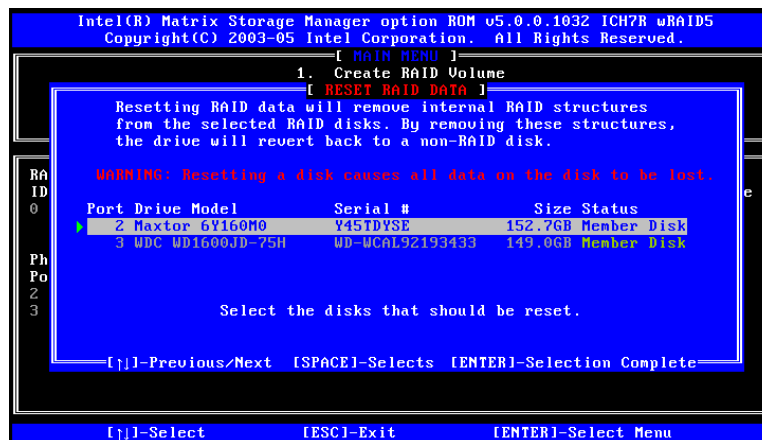

Figure E-13: Select Disk to Reset
Step 2: Select Disks to Reset. Use the arrow keys to scroll through the disk drives and press **SPACE** to select which drives are to be reset as non-RAID. After all the disks to be reset have been chosen, press **ENTER**. See Figure E-13.